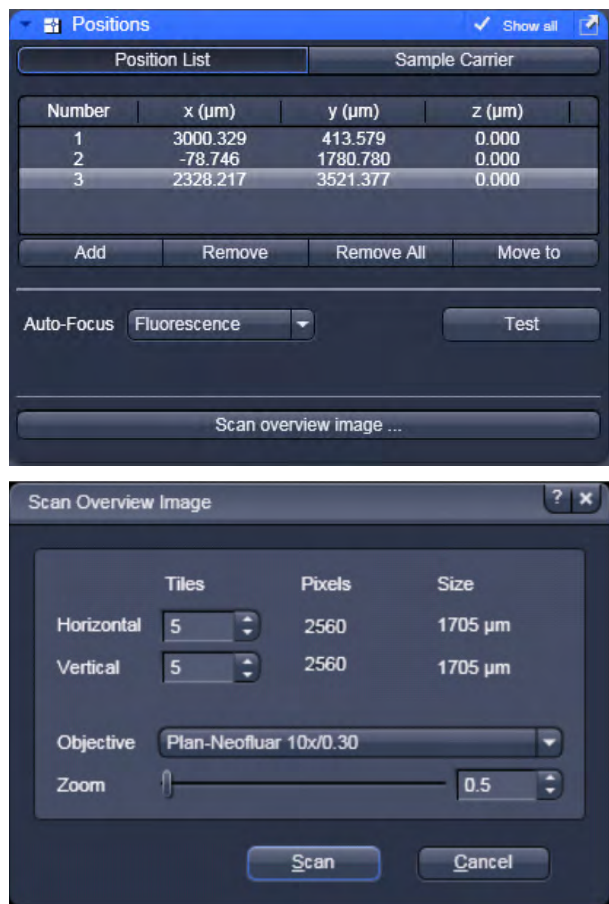

Fig. 93 Positions Tool, Position List tab; sub-tab Scan Overview Image
Using the first tab, **Position List** (Fig. 93), provides the following functions:
**Scan overview image** opens a new interactive window (Fig. 93) to define the number of **Tiles**, the **Objective** (choose from the drop down menu) and a potential **Zoom** factor with which to scan an overview image. This overview image can then be used to navigate in the sample (i.e. define positions for imaging). **Scan** starts the tile scan, **Cancel** closes the window without further action.